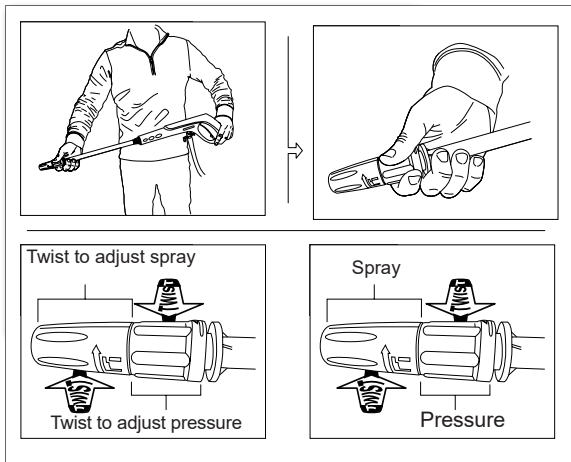

Fig. 21
- Use the high/low nozzle lance when cleaning windows. Be sure to adjust the nozzle to low spray and place the nozzle approximately four to five feet away from the window with the nozzle at forty five degree angle. Squeeze the trigger and vary the spray pattern and angle until optimum cleaning efficiency is achieved (Fig. 21).